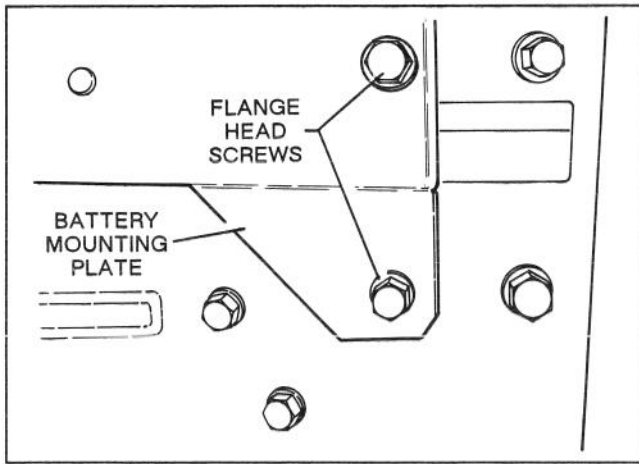

Figure 15
23. Mount front of battery mounting plate to engine frame and idler assembly with (2) 25mm (1") lg. flange head capscrews (Fig.15).